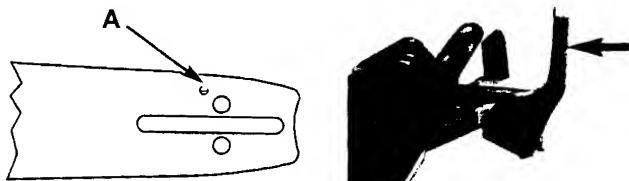

Fig. 17
CAUTION: To ensure the bar and chain receive oil, ONLY USE THE ORIGINAL STYLE BAR with the oil passage hole (A) as illustrated in Fig. 17.
1. Make sure the Chain Brake® lever is pulled back into the DISENGAGED position (Fig. 17).